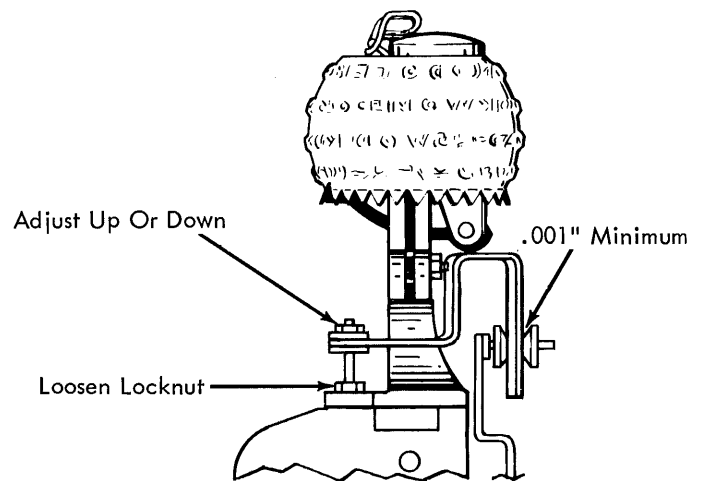

FIGURE 105. Detent Lever Support
- b. With the detent cam follower on the low dwell of the cam (detents fully seated), loosen the locknut on the detent actuating lever support and adjust the Bristo screw up or down until there is a clearance of .001" felt between the detent actuating lever and the detent cam follower roller (Fig. 105).